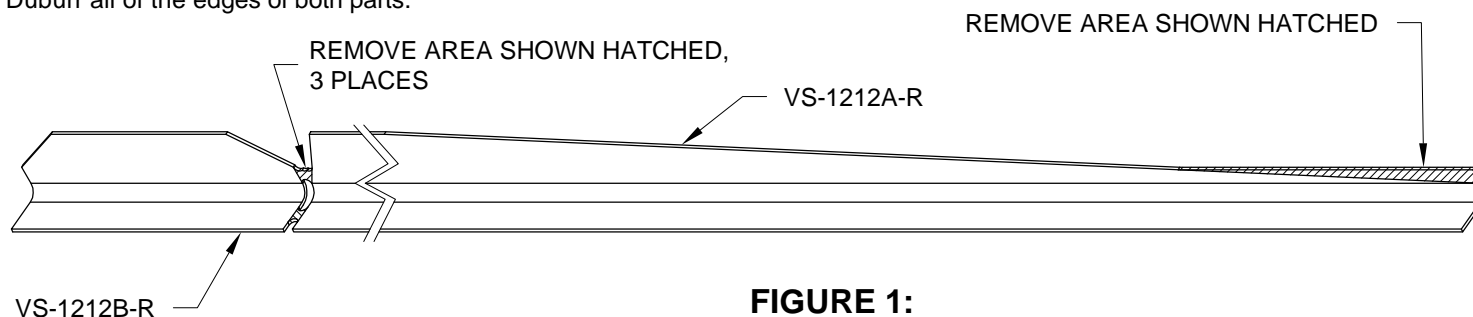

FIGURE 1:
Step 1: Separate the VS-1212A-R Lower Spar Cap and VS-1212B-R Upper Spar Cap, and trim the lower spar cap by removing the material called out in Figure 1. Mark (Section 5C) the parts with the part numbers shown in Figure 1.